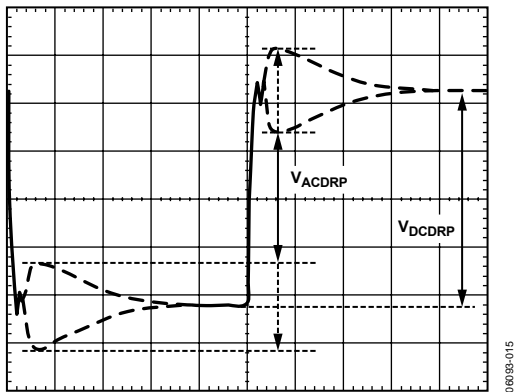

Figure 17. AC Load Line Waveform
- Measure the output waveform (use dc offset on scope to see the waveform). Try to use a vertical scale of 100 mV/div or finer. This waveform should look similar to Figure 17.
- Use the horizontal cursors to measure  $V_{ACDRP}$  and  $V_{DCDRP}$  as shown in Figure 17. Do not measure the undershoot or overshoot that happens immediately after this step.
- $$C_{CS(NEW)} = C_{CS(OLD)} \times \frac{V_{ACDRP}}{V_{DCDRP}} \quad (49)$$